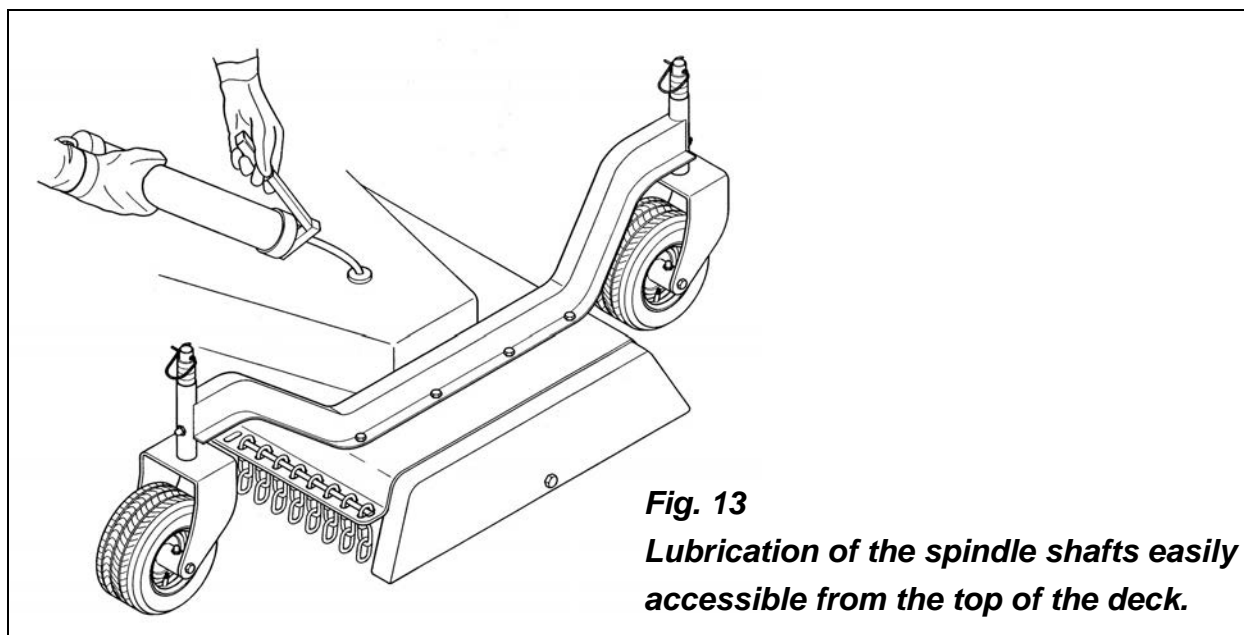
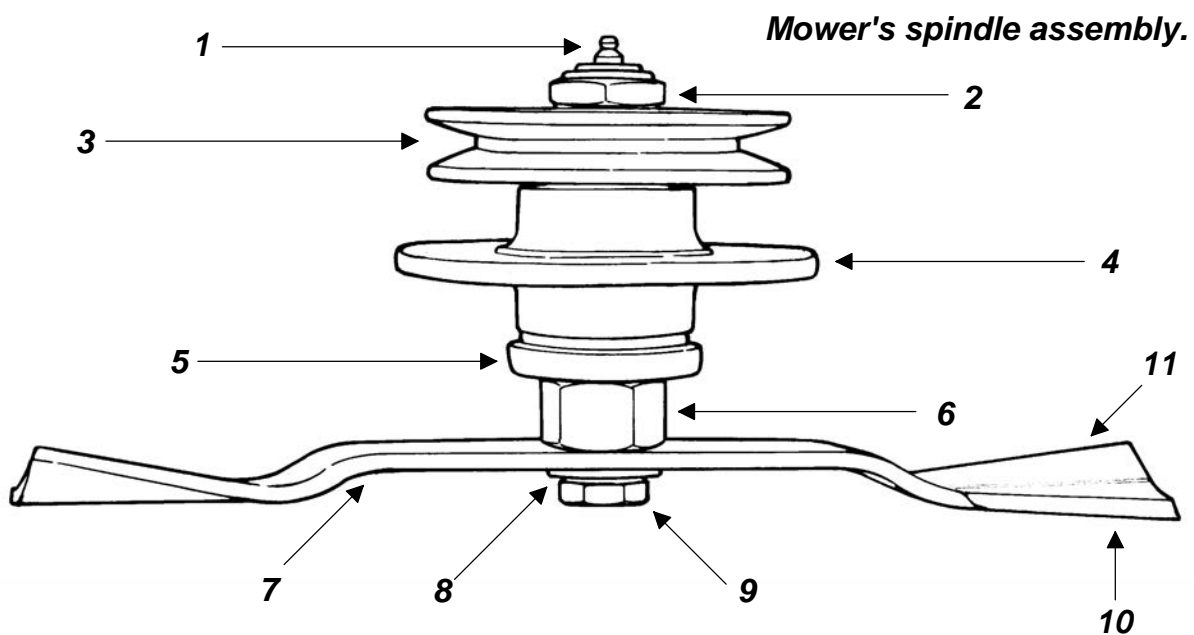

Fig. 13
Fig. 14
1. Lubricate the three spindles with multipurpose grease (**see fig. 13**). Pump grease until you see it seep through the hole on the bottom cover (**see #5, fig. 14**) of the
1. The blade turns in a **counter clockwise** direction when viewed from the bottom of the deck. The cutting edge must be towards the direction of rotation. The lift wing of the blades is closest to the deck and the cutting edge away from it (**see fig. 14**).
2. Install the cup washer (**see fig. 14**) over the blade bolt and secure the blade in place as described above.